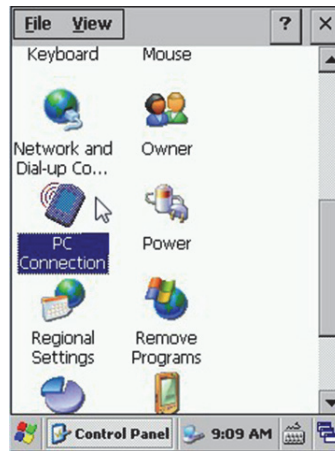

Figure G-13 Control Panel — PC Connection icon
1. In the **Control Panel**, scroll down to the **PC Connection** icon (see Figure G-13 on page 183) and double-tap it to display the **PC Connection Properties** screen.